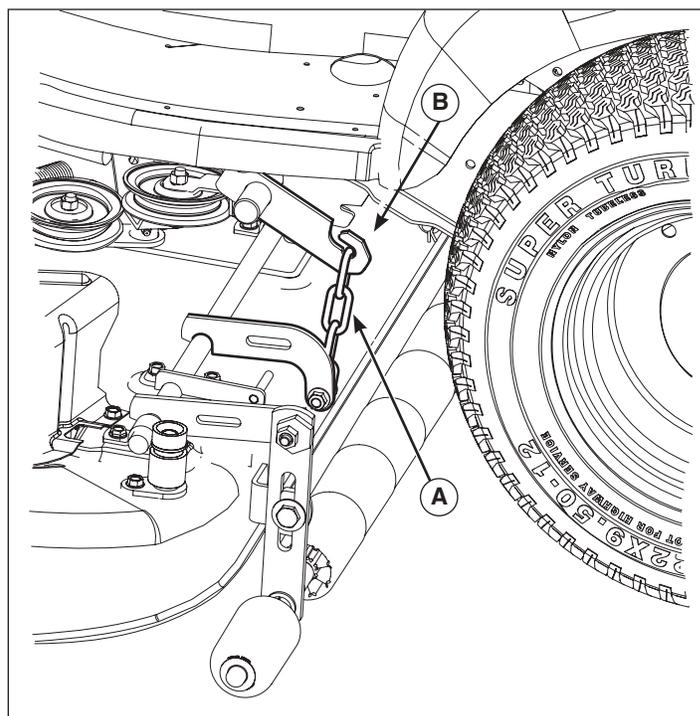

Figure 15
8. Disconnect lift chain (**A**, Figure 15) from lift hook (**B**) on tractor. Repeat on other side.
8. Connect lift chain (**A**, Figure 15) onto lift hook (**B**) on tractor. Repeat on other side.